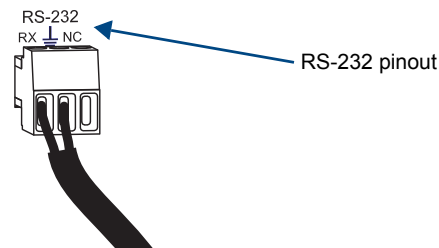

FIG. 23 Wire TX for RS-232 data transfer
1. Wire the RS-232 connector according to the pinout directly above the connector (FIG. 23).